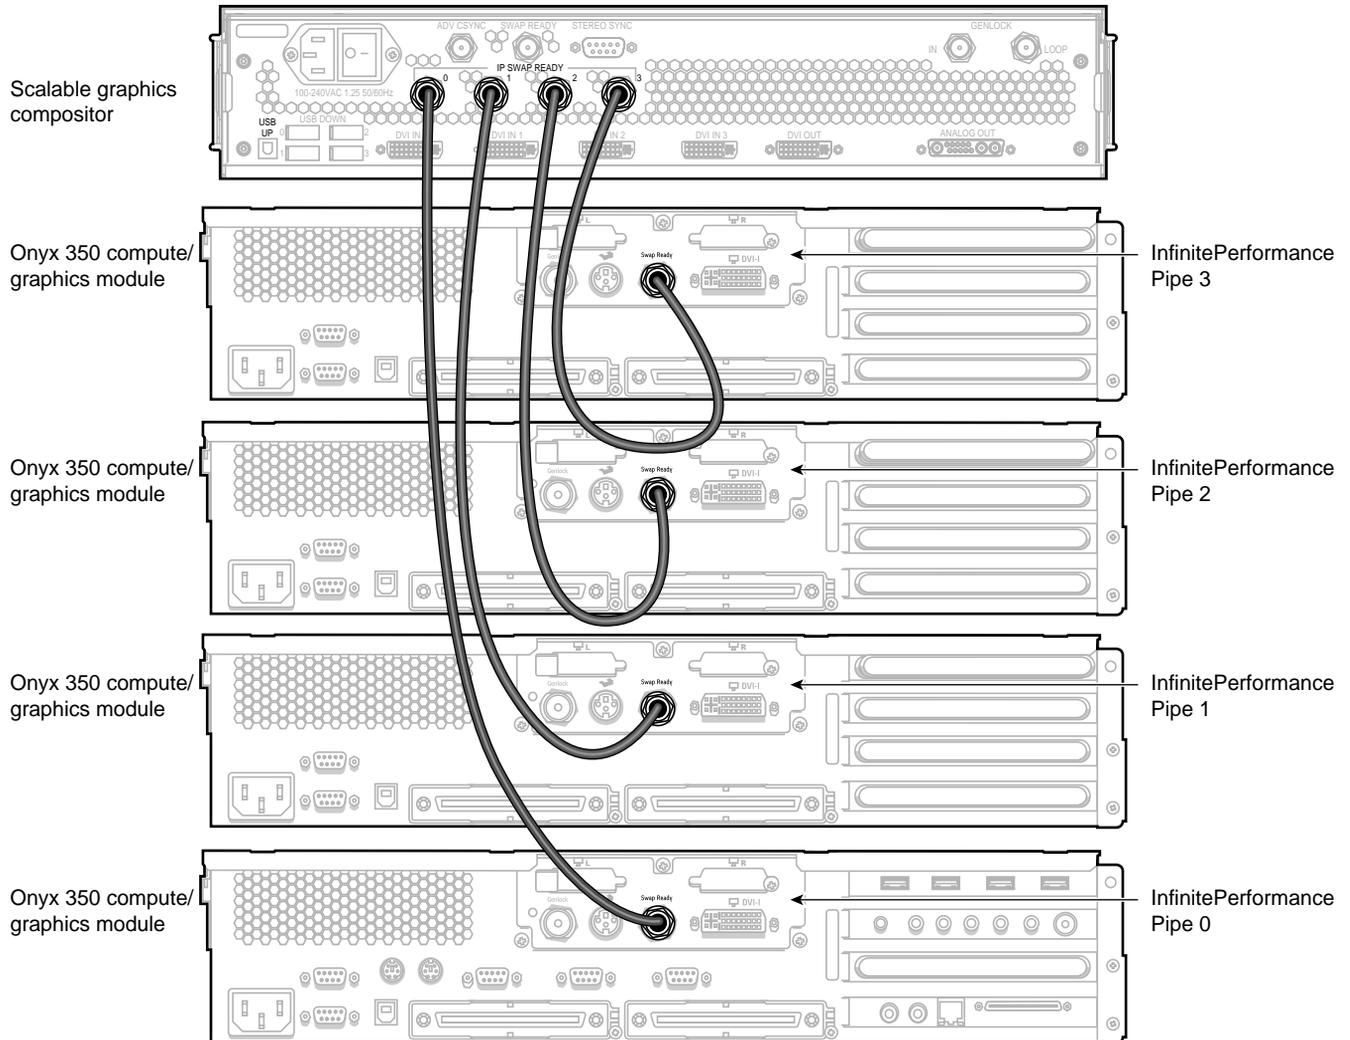

Figure 3-6 Connecting the Swap-Ready Connectors
- Using the 75-ohm BNC cables, connect the swap-ready connectors of the InfinitePerformance pipes to the swap-ready connectors on the compositor in the following order (as shown in Figure 3-6): pipe 0 to IP SWAP READY 0, pipe 1 to IP SWAP READY 1, pipe 2 to IP SWAP READY 2, and pipe 3 to IP SWAP READY 3.